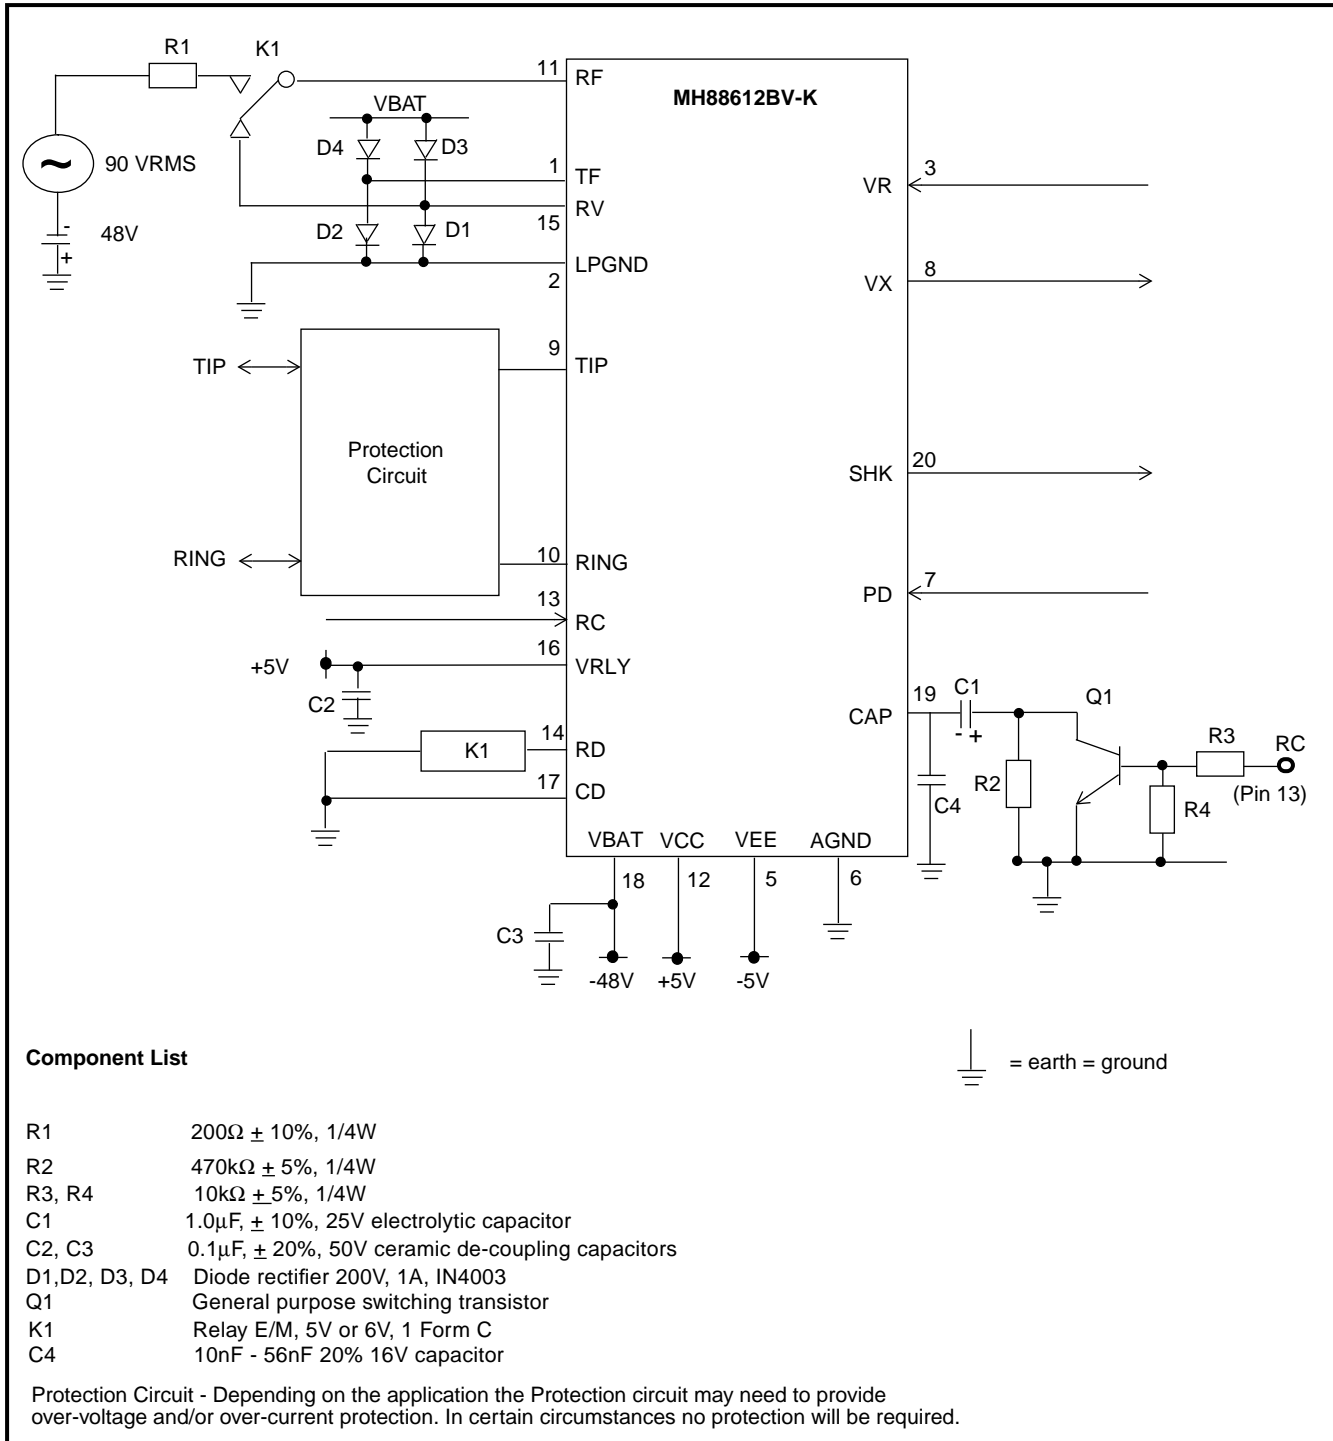

Figure 3 - Typical Application Circuit
Note 1: C4 in Figure 3 can be added permanently to this pin for certain dial pulse applications.
In Figure 3 a ringling signal (e.g.90 Vrms and -48Vdc) is applied to the line by disconnecting pin 15 (RV) from pin 11(RF), and connecting the ringling voltage at pin 11 (RF) by use of the relay K1.
During off-hook conditions (on-line), the capacitor (C1) should not have a low impedance path to ground. This can be achieved using a transistor (Q1) and resistor (R2) as shown in Figure 3, with R2 providing a high impedance path for C1. When ringling is applied (RC = 5V) the transistor will short circuit R2 which will give C1 a low impedance path to ground and provide the required filtering.